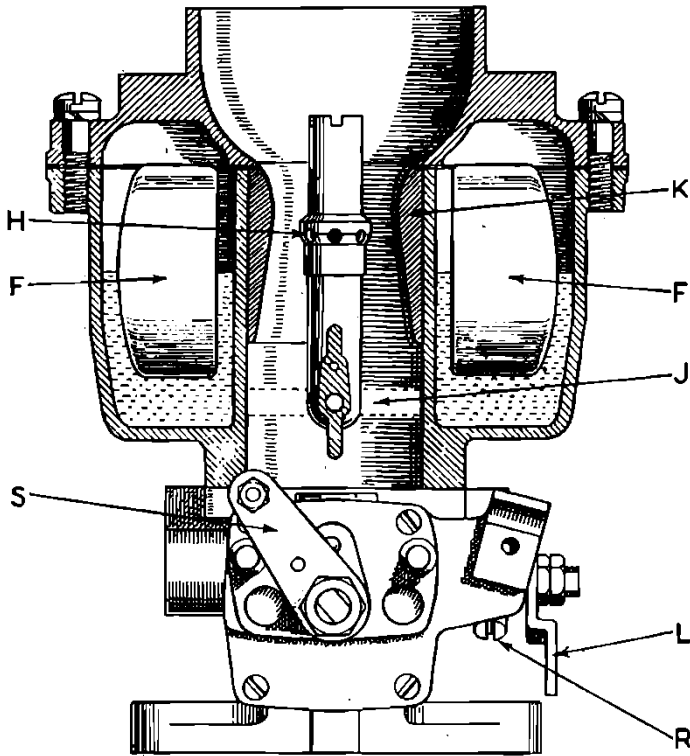
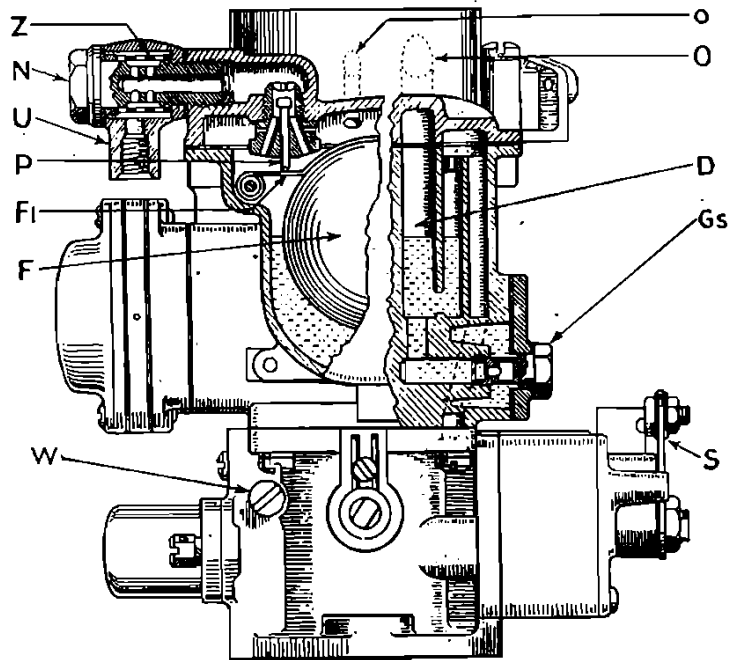
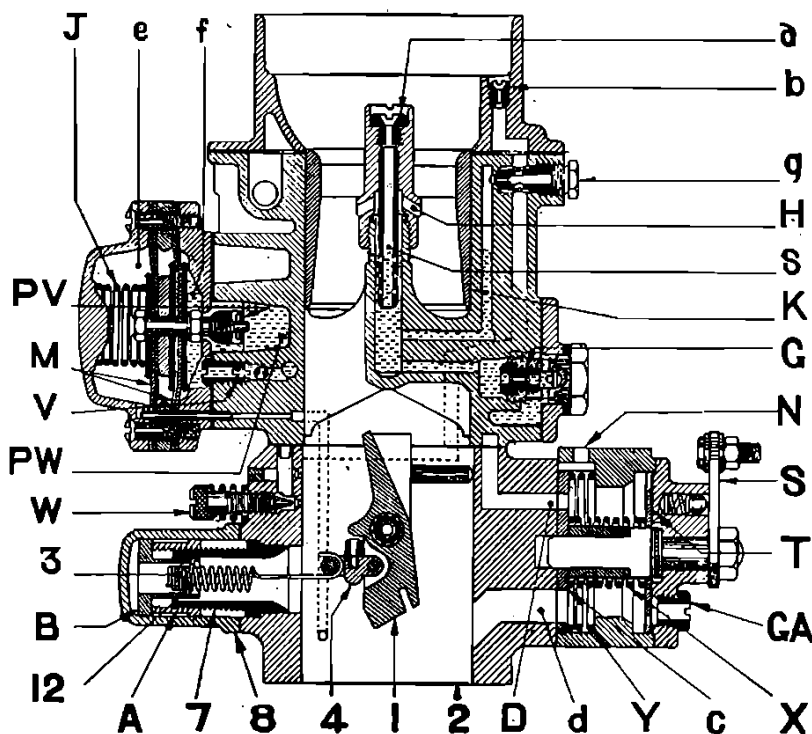
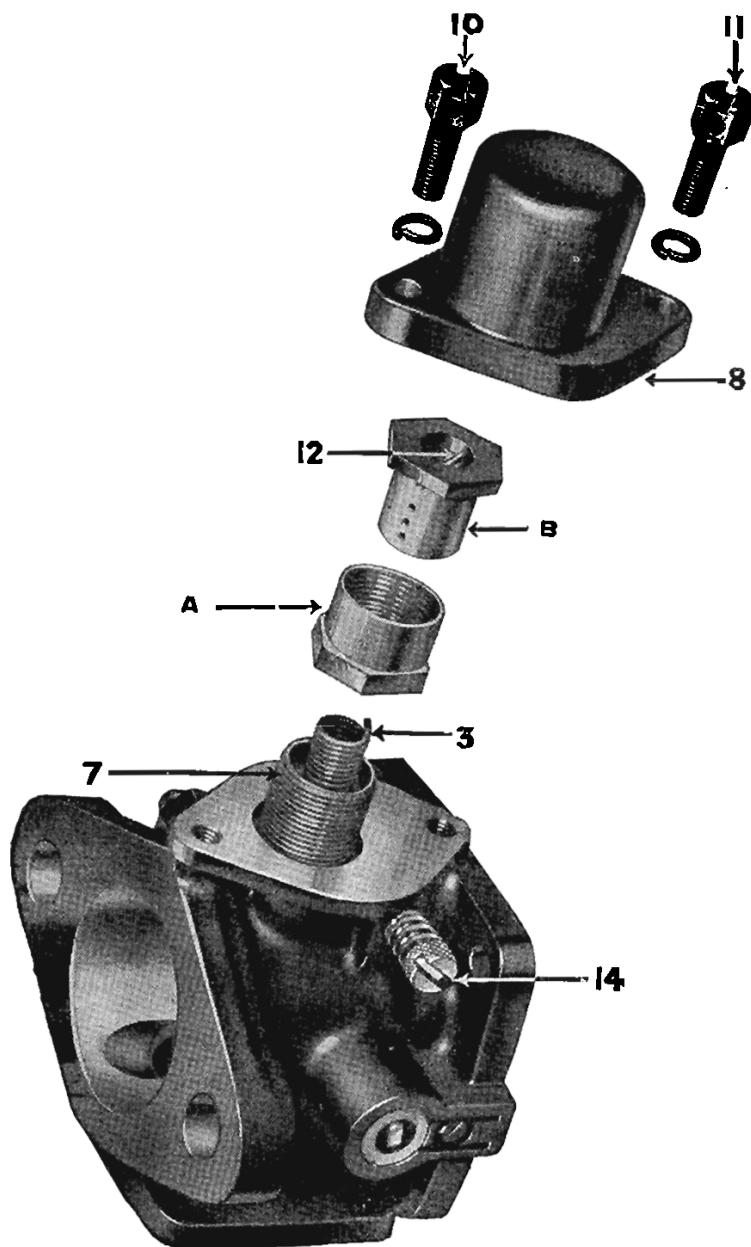

Figure 52. Carburettor Float Chambers
Figure 53. Carburettor Needle Valve
Figure 54. Carburettor in Section
Figure 55. Exploded View of Governor
In Fig. 52 the communicating channel (J) is shown together with the two float chambers (F) and in Fig. 53 it will be seen that there is one needle valve (P) only, which is of standard design with swivelling union (U) and filter gauze (Z).
The main jet (G Fig. 54) is fed from the float chamber, and from this main jet petrol passes to the drilled emulsion tube (s), where it meets the air entering from the correction jet (a) and the mixture then passes outwards via the six holes in the emulsion tube into the annulus represented by the space between the emulsion tube and the wall of the petrol well. From here it travels vertically upwards, finally passing out through the row of six radial holes (H) into the choke tube waist, where it meets the main high velocity air current, and is atomised thereby.
To comprehend the functioning of the economy device refer to Fig. 54 where there will be seen an assembly consisting of a chamber (e) occupied by a spring (J) compressed between the wall and a set of diaphragms (M) through the centres of which, and fixed thereto, passes a shaft terminating in a valve (PV).
The "Self-Starter" device is shown at the bottom right hand of Figure 54 and reference to this will show that two discs (c) and (T) are mounted on an operating spindle, the rotation of which is controlled by the lever (S). The inner and larger spring (Y) holds the inner disc in hermetic contact with the carburettor face, drilled with a hole (D) through which the fuel enters the mixing chamber of the starting device, and two holes (d) (only one of which is shown) to admit the starting mixture to the induction pipe.
A petrol jet (Gs, Fig. 53) controls the supply of petrol to the mixing chamber.
On the right, outer disc (T, Fig. 54) is also in spring-loaded hermetic contact with the opposite wall of the mixing chamber, the air supply to which is controlled by two air jets (GA), one of which is shown. In this particular case actual air jets are not fitted. The carburettor has been specially built and the air volume is calibrated by fixed holes in the casting.
After the initial start is effected, the richness of the mixture automatically decreases, as with rising engine speed a progressively increased quantity of air is inspired, whereas the flow of petrol by virtue of gravity through the petrol jet (Gs, Fig. 53) remains constant as governed by the size of the jet.
For *severe frost* conditions, the dashboard control knob is pulled out to the first stop, turned half left and pulled again. This operation takes the lever (S, Fig. 54) to the full limit of its travel.
In this case, the disc (c) rotates to bring in line with the channel (D) a hole which is of a larger size, enabling petrol to the full capacity of the (Gs, Fig. 53) petrol jet calibration to enter the mixing chamber. At the same time, disc (T, Fig. 54) presents a blank face to the (GA) air jet orifices, thus closing off all air from this source.
The governor is shown on the cross section Fig. 54 and the exploded view Fig. 55. It operates on the velocity principle, the closing of the throttle sufficiently to remain constant being accomplished by velocity of the ingoing air stream taking effect on the inclined face of the butterfly type of throttle.
An important adjunct to steady and sensitive governing lies in the method of attaching the spring hook to the throttle. Referring again to Fig. 54, a link (4) is seen, pivoted to the throttle at its one end. The other extremity houses a bronze roller, over which the spring is hooked, this roller, of course,